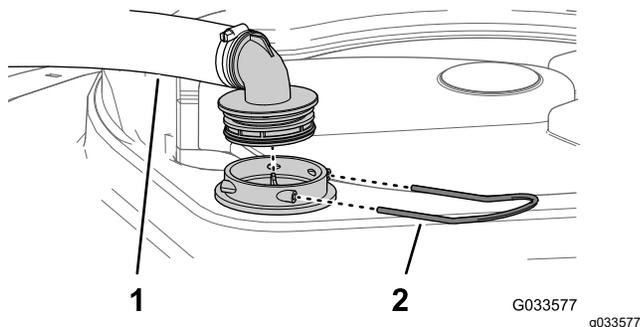

Figure 29
- At the top of the sprayer tank, remove the retainer that secures the hose fitting attached to the large hose from the filter housing (Figure 29).
- Remove the hose and hose fitting from the filter housing (Figure 29).